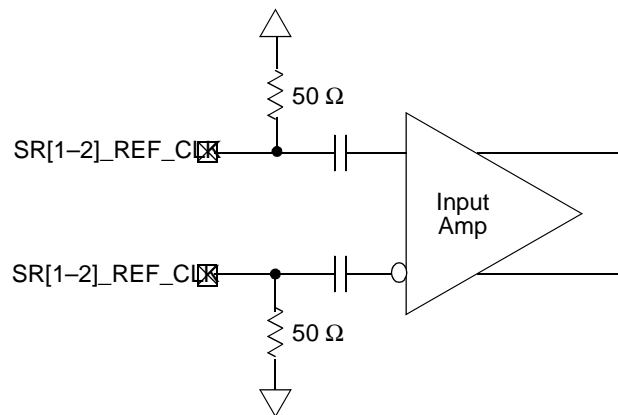

Figure 5. Receiver of SerDes Reference Clocks
The SerDes reference clock inputs are applied to an internal PLL whose output creates the clock used by the corresponding SerDes lanes. The SerDes reference clock inputs are SR1\_REF\_CLK/SR1\_REF\_CLK or SR2\_REF\_CLK/SR2\_REF\_CLK. Figure 5 shows a receiver reference diagram of the SerDes reference clocks.
- The SR[1-2]\_REF\_CLK and  $\overline{\text{SR[1-2]_REF_CLK}}$  are internally AC-coupled differential inputs as shown in Figure 5. Each differential clock input (SR[1-2]\_REF\_CLK or  $\overline{\text{SR[1-2]_REF_CLK}}$ ) has on-chip 50- $\Omega$  termination to  $\text{GND}_{SXC}$  followed by on-chip AC-coupling.